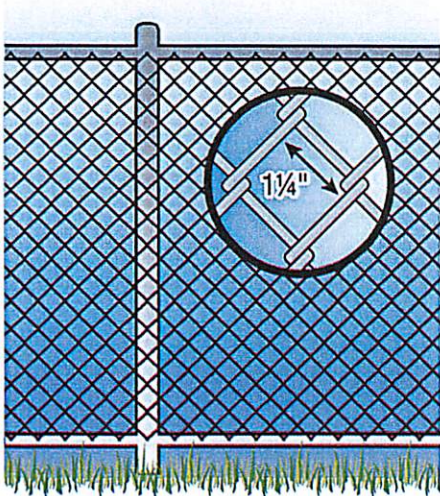

Figure 5
8. **Maximum mesh size for chain link fences** should not exceed $1\frac{1}{4}$ inch square unless the fence is provided with slats fastened at the top or the bottom which reduce the openings to no more than $1\frac{3}{4}$ inches (figures 5 and 6).